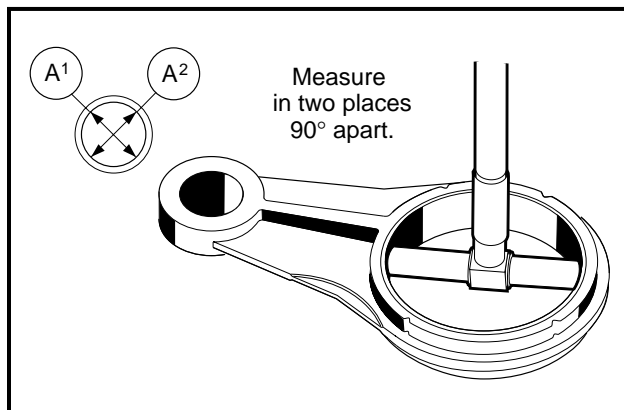

Figure 13-79 Measure Large Bore I.D.
- 1.3. If the inside diameter of the large end is greater than 1.8554 inches (47.127 mm), replace the bearing (**Figure 13-79, Page 13-37**). **See following note.**